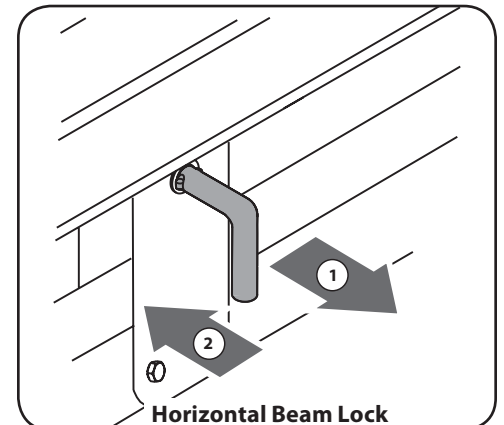

Figure 3-4
- b. The horizontal beam lock is self-locking. The spring loaded lock will snap into place when the beam is lowered into position. See Figure 3-4.